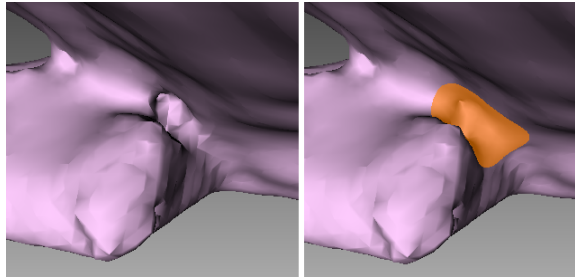

Figure 154: Before smoothing (left) and smoothing out a poorly captured area (right).
6. Hold *LMB* and paint the surface region in order to smooth it. The tool will smooth the affected areas (see Figure 154, right).